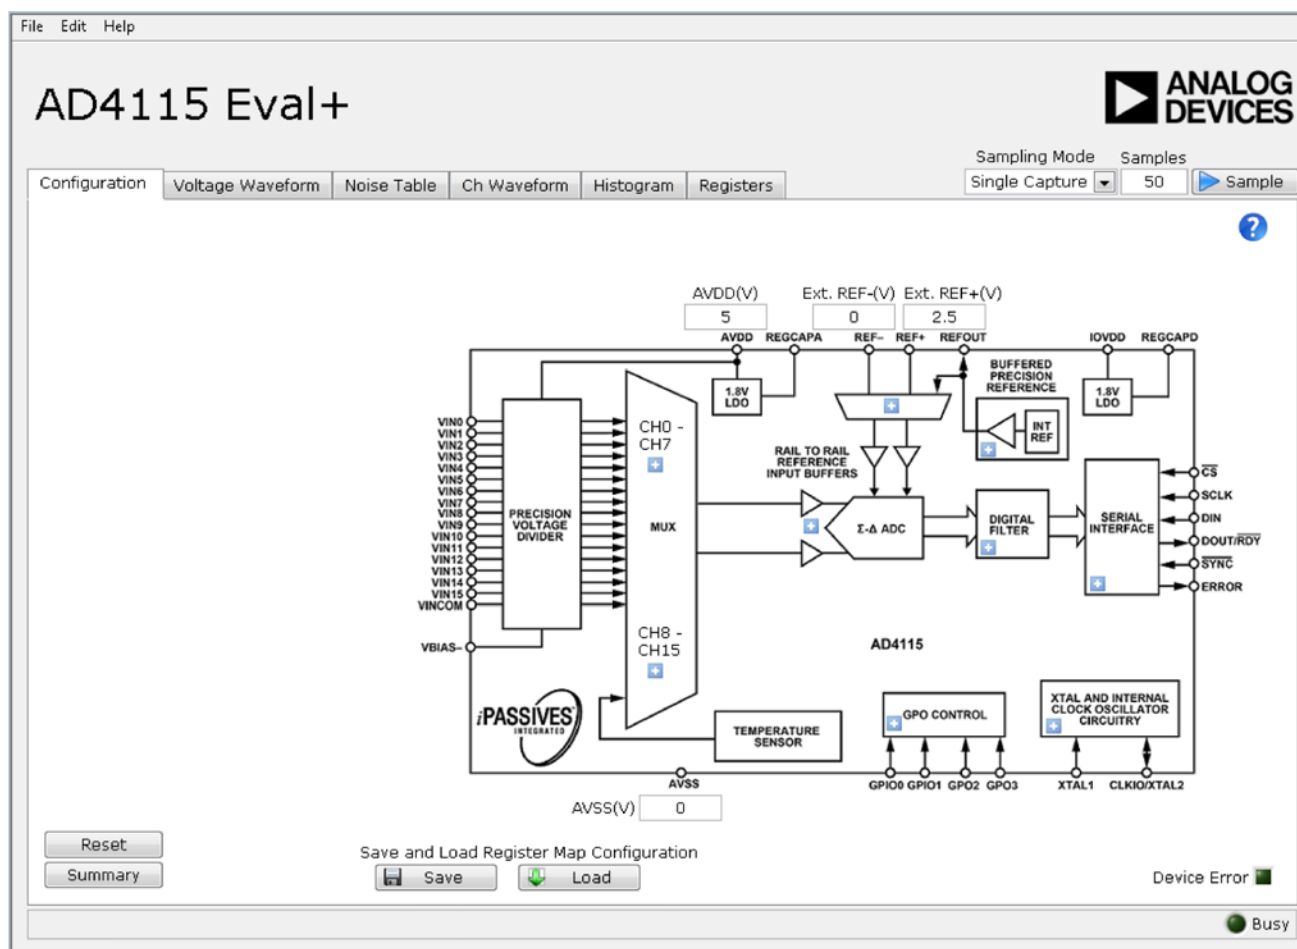

Figure 17. Configuration Tab in Advanced Mode
4. Advanced mode can be used when more configurability of the inputs is required. In this mode, the input GUI is not available. However, the user has access to the **Registers** tab, which provides full control of the **AD4115** register map (see Figure 17). When operating in advanced mode, the user must consult the **AD4115** data sheet.